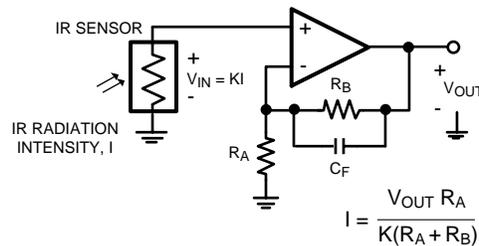

Figure 60. IR Radiation Sensor
The low input bias current and low input referred noise of the LMV791 and LMV792 make them ideal for sensor interfaces. These circuits are required to sense voltages of the order of a few  $\mu\text{V}$ , and currents amounting to less than a nA, and hence the operational amplifier needs to have low voltage noise and low input bias current. Typical applications include infrared (IR) thermometry, thermocouple amplifiers and pH electrode buffers. Figure 60 is an example of a typical circuit used for measuring IR radiation intensity, often used for estimating the temperature of an object from a distance. The IR sensor generates a voltage proportional to  $I$ , which is the intensity of the IR radiation falling on it. As shown in Figure 60,  $K$  is the constant of proportionality relating the voltage across the IR sensor ( $V_{IN}$ ) to the radiation intensity,  $I$ . The resistances  $R_A$  and  $R_B$  are selected to provide a high gain to amplify this voltage, while  $C_F$  is added to filter out the high-frequency noise.